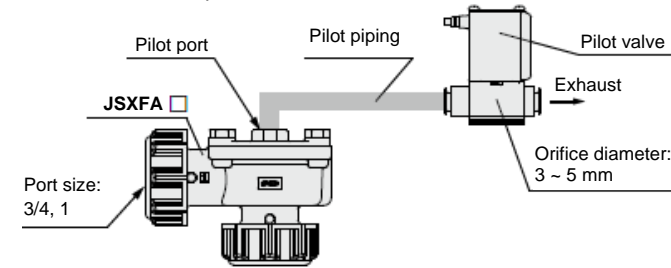

Fig.5
- Valves with suffix 'A':** These valves (available for port sizes 3/4, 1) can be operated with a pilot valve with orifice size between 3 mm and 5 mm, see Fig.5 (example showing JSXFAE-06/10). The main valve may not operate correctly if the pilot valve orifice diameter is inadequate.